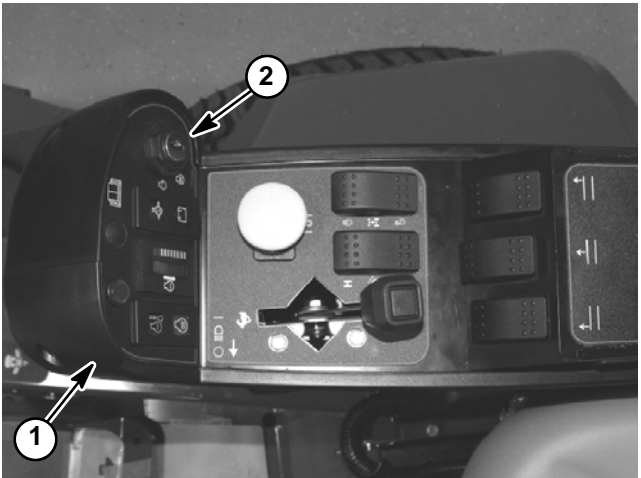

Figure 15
The ignition (key) switch on the console arm has three (3) positions (OFF, ON/PREHEAT and START) (Fig. 15).